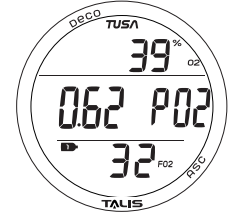

Fig. 59 - NO DECO ALT 2
**NORM No Deco ALT 2** (only if Nitrox), information includes (Fig. 59):